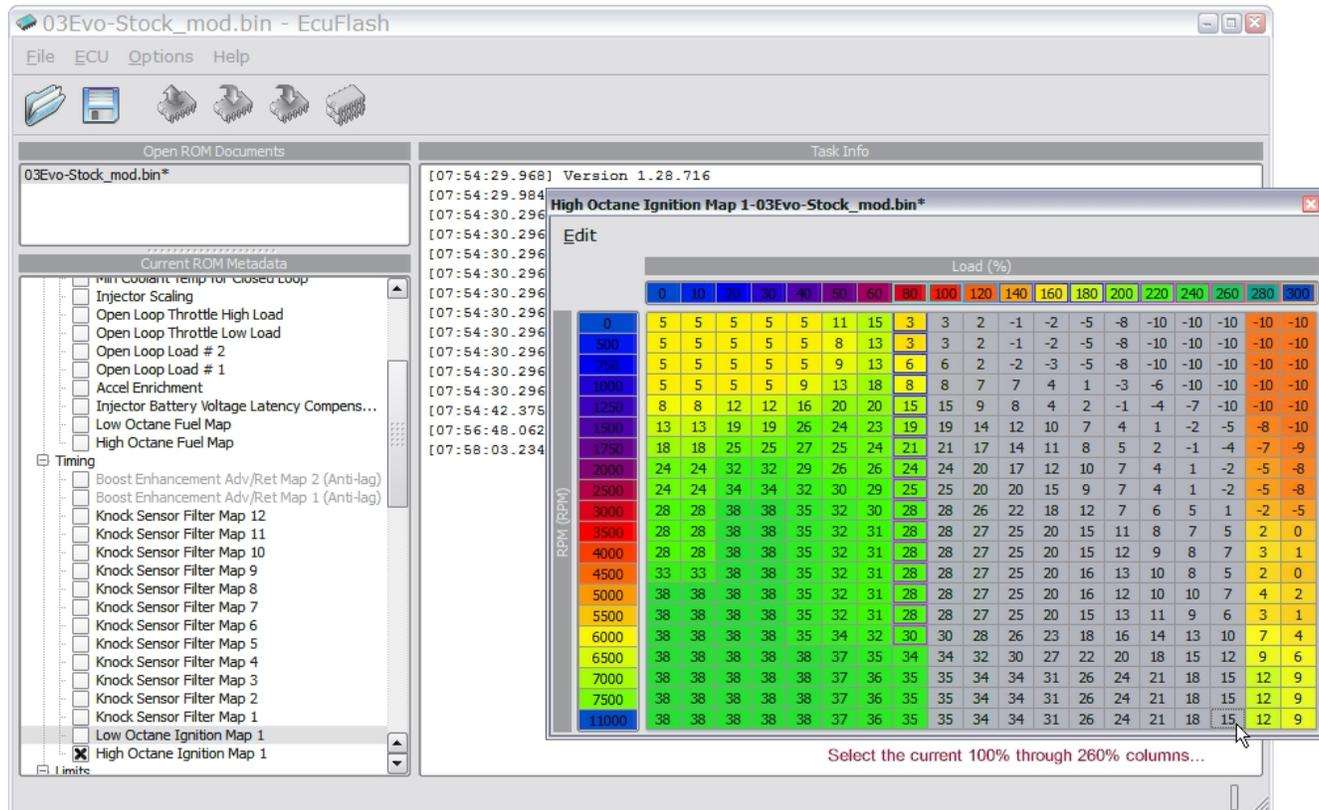

Figure 15, modified 2003 Evolution VIII ECU High Octane Ignition Map, select 100% to 260% columns
- o Paste selected cells into the 100% to 260% columns (figure 15)